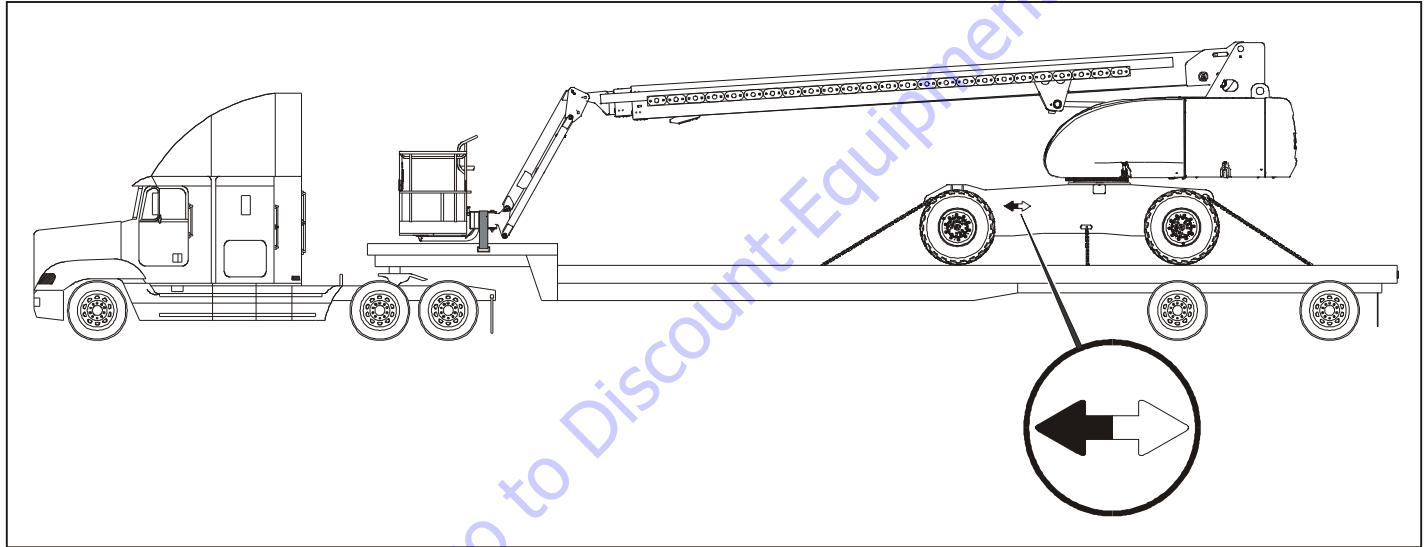

Figure 4-7. Typical 800S/860SJ Transport
- c. Drive it onto the trailer with the boom and platform positioned towards the truck. Refer to Figure 4-7., Typical 800S/860SJ Transport.